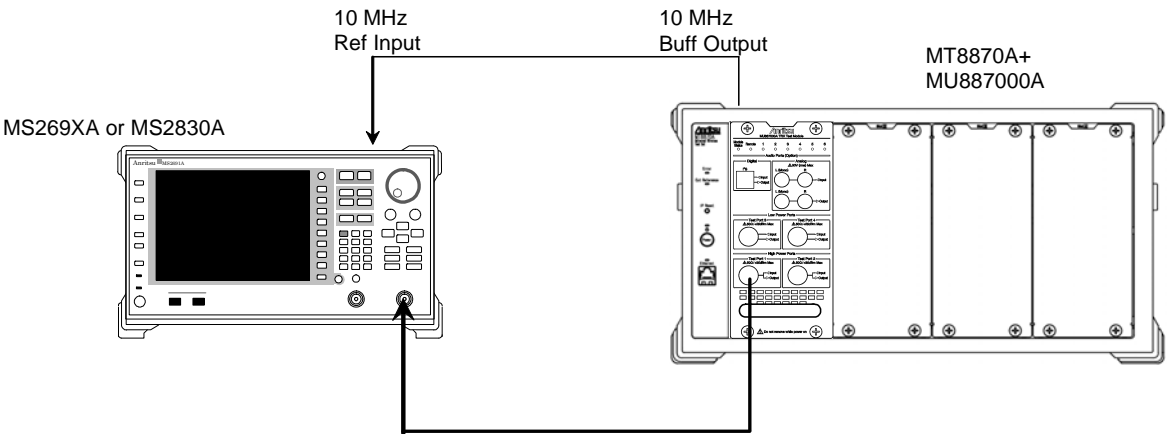

Figure 5.3.3-1 Output EVM Measurement Setup
1. Setup the instruments as shown in Figure 5.3.3-1.
2. Select the signal analyzer (SA) measurement software and set the following: